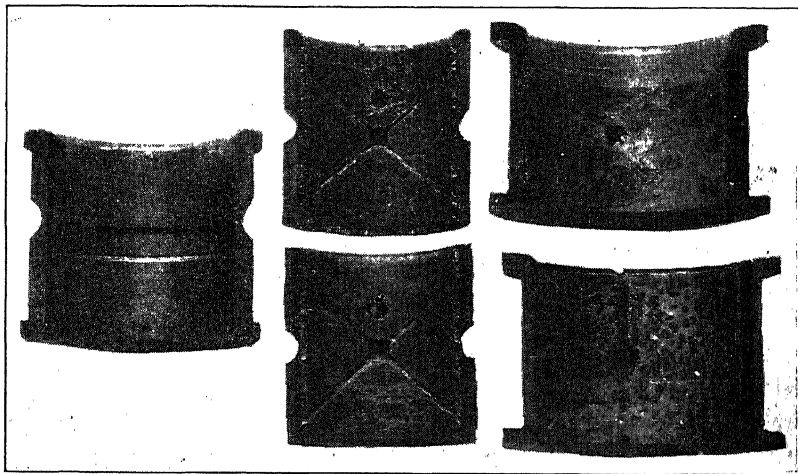

Fig. 15. Burned Engine Bearings—One Unburned at the Left
**Main Engine Bearings.** Main engine bearings, as a rule, may be refitted unless they are of the Chadwick Close Limit Renewable Bearings, in which case the entire set should be discarded in case repairs are needed and a new set installed. These require no scraping or fitting of any kind. Main engine bearings in general are of two types—those which are sweated and cast into a crankcase and those die-cast and fitted into a machined bearing support. The latter type are easily removable by removing one or more brass screws. If the bearing has been broken or is badly burned, Fig. 15, it is a good plan to remove it and replace it with a new one.